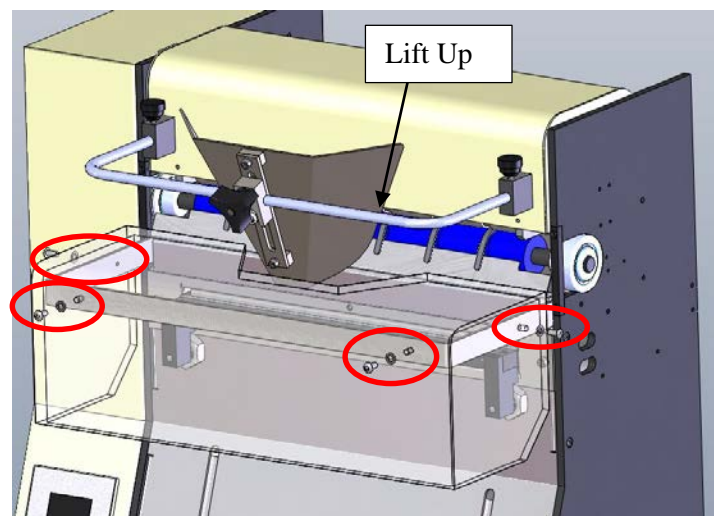

Figure 3-2
When the Teflon sheet has been exhausted, it will become loose from the upper Teflon rod and will require replacement. There are three phases when replacing the Teflon, Phase 1: Disassembling parts of the machine to get to the Teflon Bracket, Phase 2: Changing the Teflon, and Phase 3: Reassembling the machine parts taken off to get to the bracket. Use Figure 3-2,
4. Remove four screws from the guard assembly and remove the Lexan guard, see Figure 3-2.